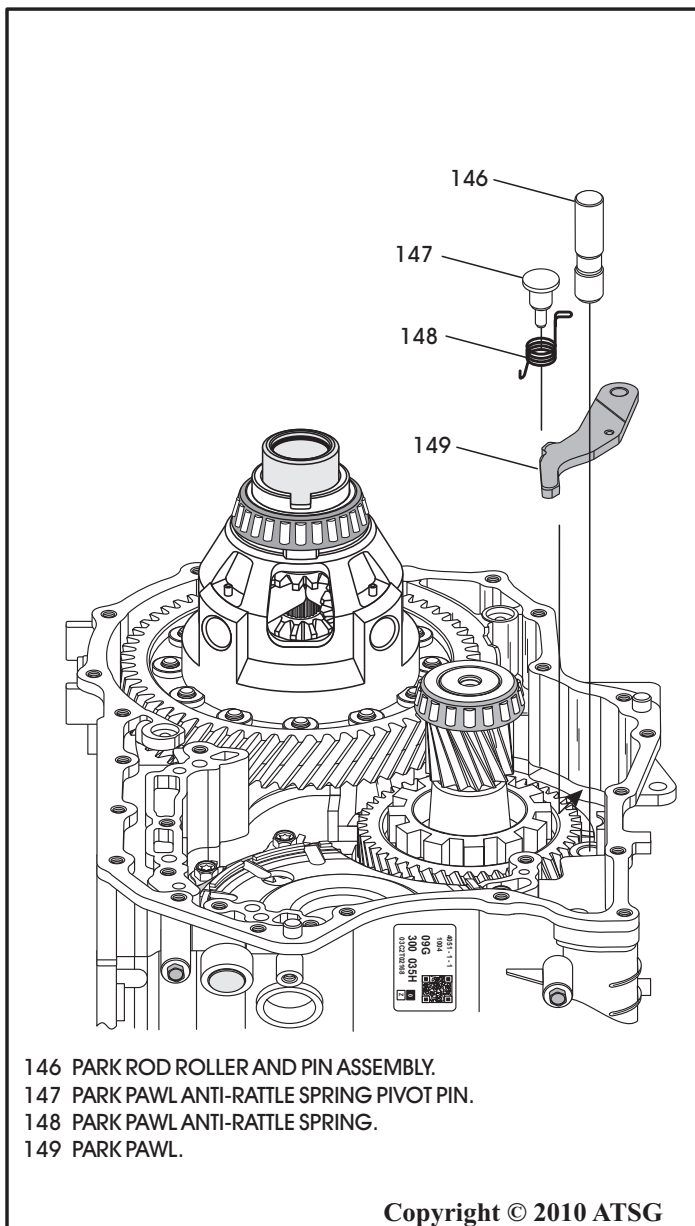

Figure 174
5. Install the parking pawl into the slot in transaxle case, as shown in Figure 174 and 175.
19. Install the park rod roller and pin assembly into case bore, as shown in Figure 174.
22. Install the park pawl anti-rattle pivot pin and spring, as shown in Figure 174.